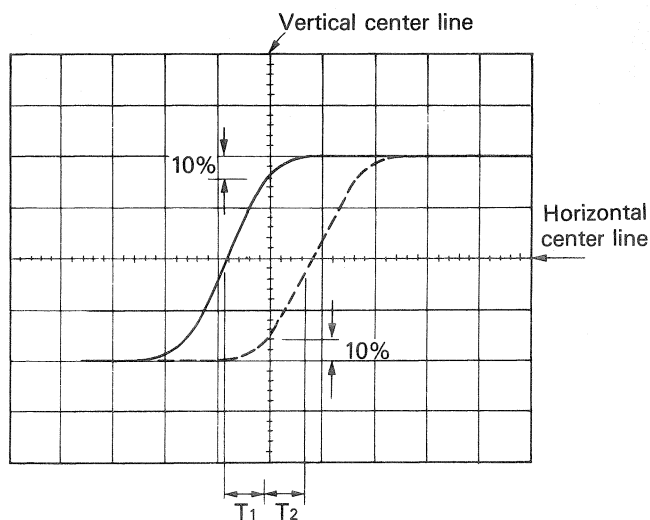

Fig. 7
- b) The horizontal position control is set so that the vertical center line crosses the rising (falling) curve at a point 10% below the peak amplitude. Then the length between the point where the curve crosses the horizontal center line and the screen center ( $T_1$ ) is read out. (See Fig. 7)